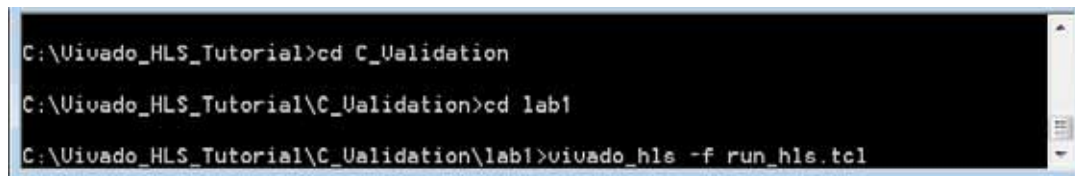

Figure 3-2: Setup the Tutorial Project
2. Using the command prompt window (Figure 3-2), change the directory to the C Validation tutorial, lab1.
3. Execute the Tcl script to setup the Vivado HLS project, using the command `vivado_hls -f run_hls.tcl` as shown in Figure 3-2.